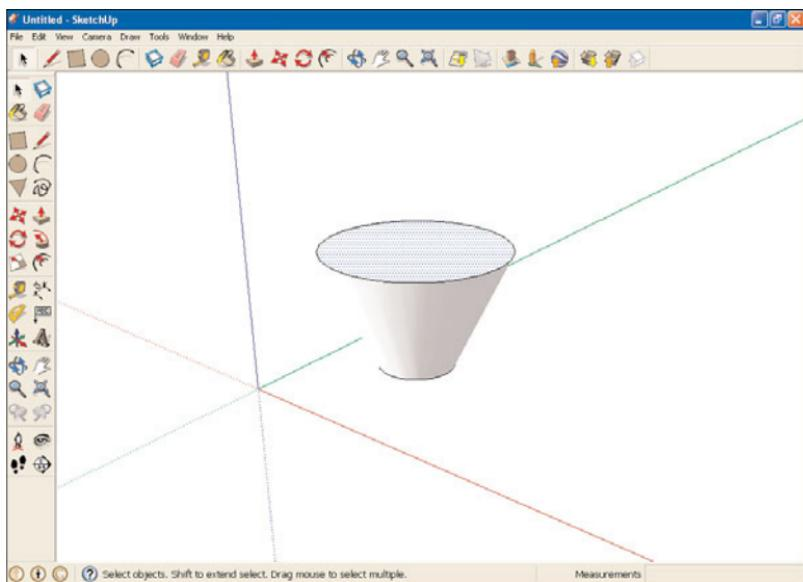

FIGURE 8.16 A funnel.
So far, we've tapered an object by pulling one edge. But to taper an object more regularly, you should taper from the center of the object. Suppose you started with the cylinder in the previous task but wanted to end up with the funnel shown in Figure 8.16.
9. Release the mouse button. When you do, the funnel is fixed in place at its new size, as shown in Figure 8.16.